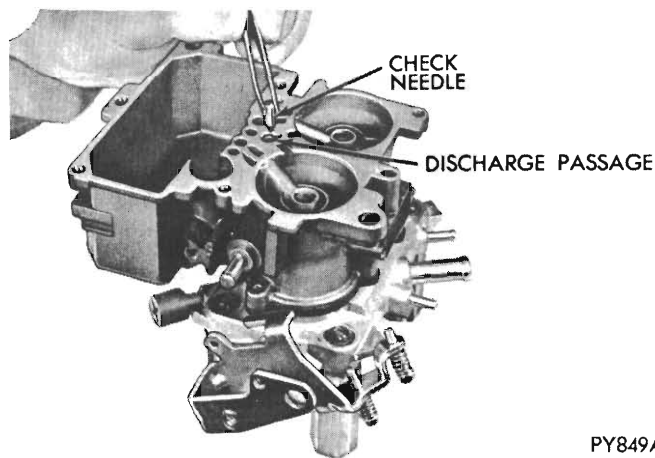

Fig. 16 – Installing accelerator pump discharge check needle
(1) Invert main body and place a new gasket in position. Place throttle body on main body and align. Install attaching screws and tighten to 25 inch pounds.
(2) Install accelerator pump discharge check needle in discharge passage (Fig. 16). Check accelerator pump, fuel inlet and discharge systems as follows:
(8) Install accelerator pump discharge check needle in pump discharge passage (Fig. 16).